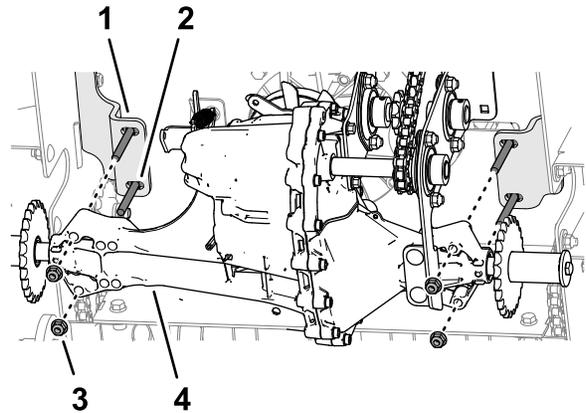

Figure 56
- While supporting the transaxle, remove the 4 flange locknuts (5/16 inch) that secure the transaxle to the axle mount, and carefully lower the transaxle to the ground (Figure 56).